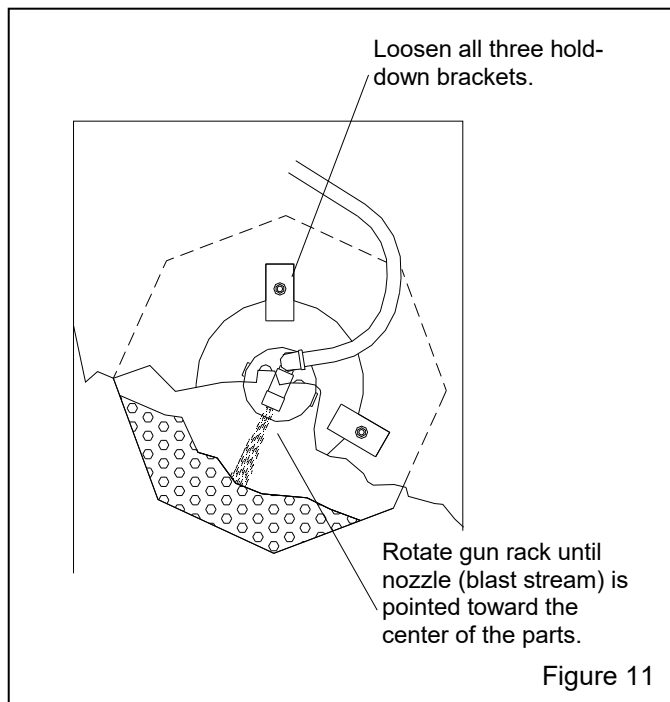

Figure 11
5.2 Gun-Rack Blast Angle – Figure 11